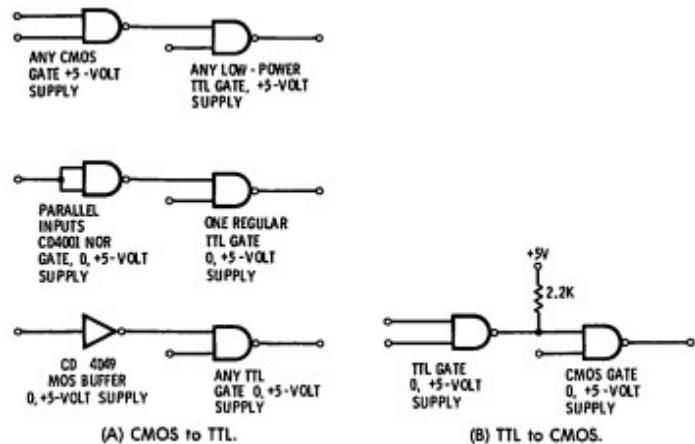

Fig. 1-15. TTL-CMOS interfacing.
**CMOS**-CMOS (Fig. 1-15) can directly drive low-power TTL. It can drive one regular-powered TTL input if a device is chosen with two parallel transistors to ground, as shown in Fig. 1-15, or it can drive several TTL inputs, using a buffer, such as the CD4049 or CD4050. TTL can directly drive MOS, although noise immunity is improved with a pull-up resistor. The minimum TTL high state should be well above one-half, but less than the positive MOS supply voltage.